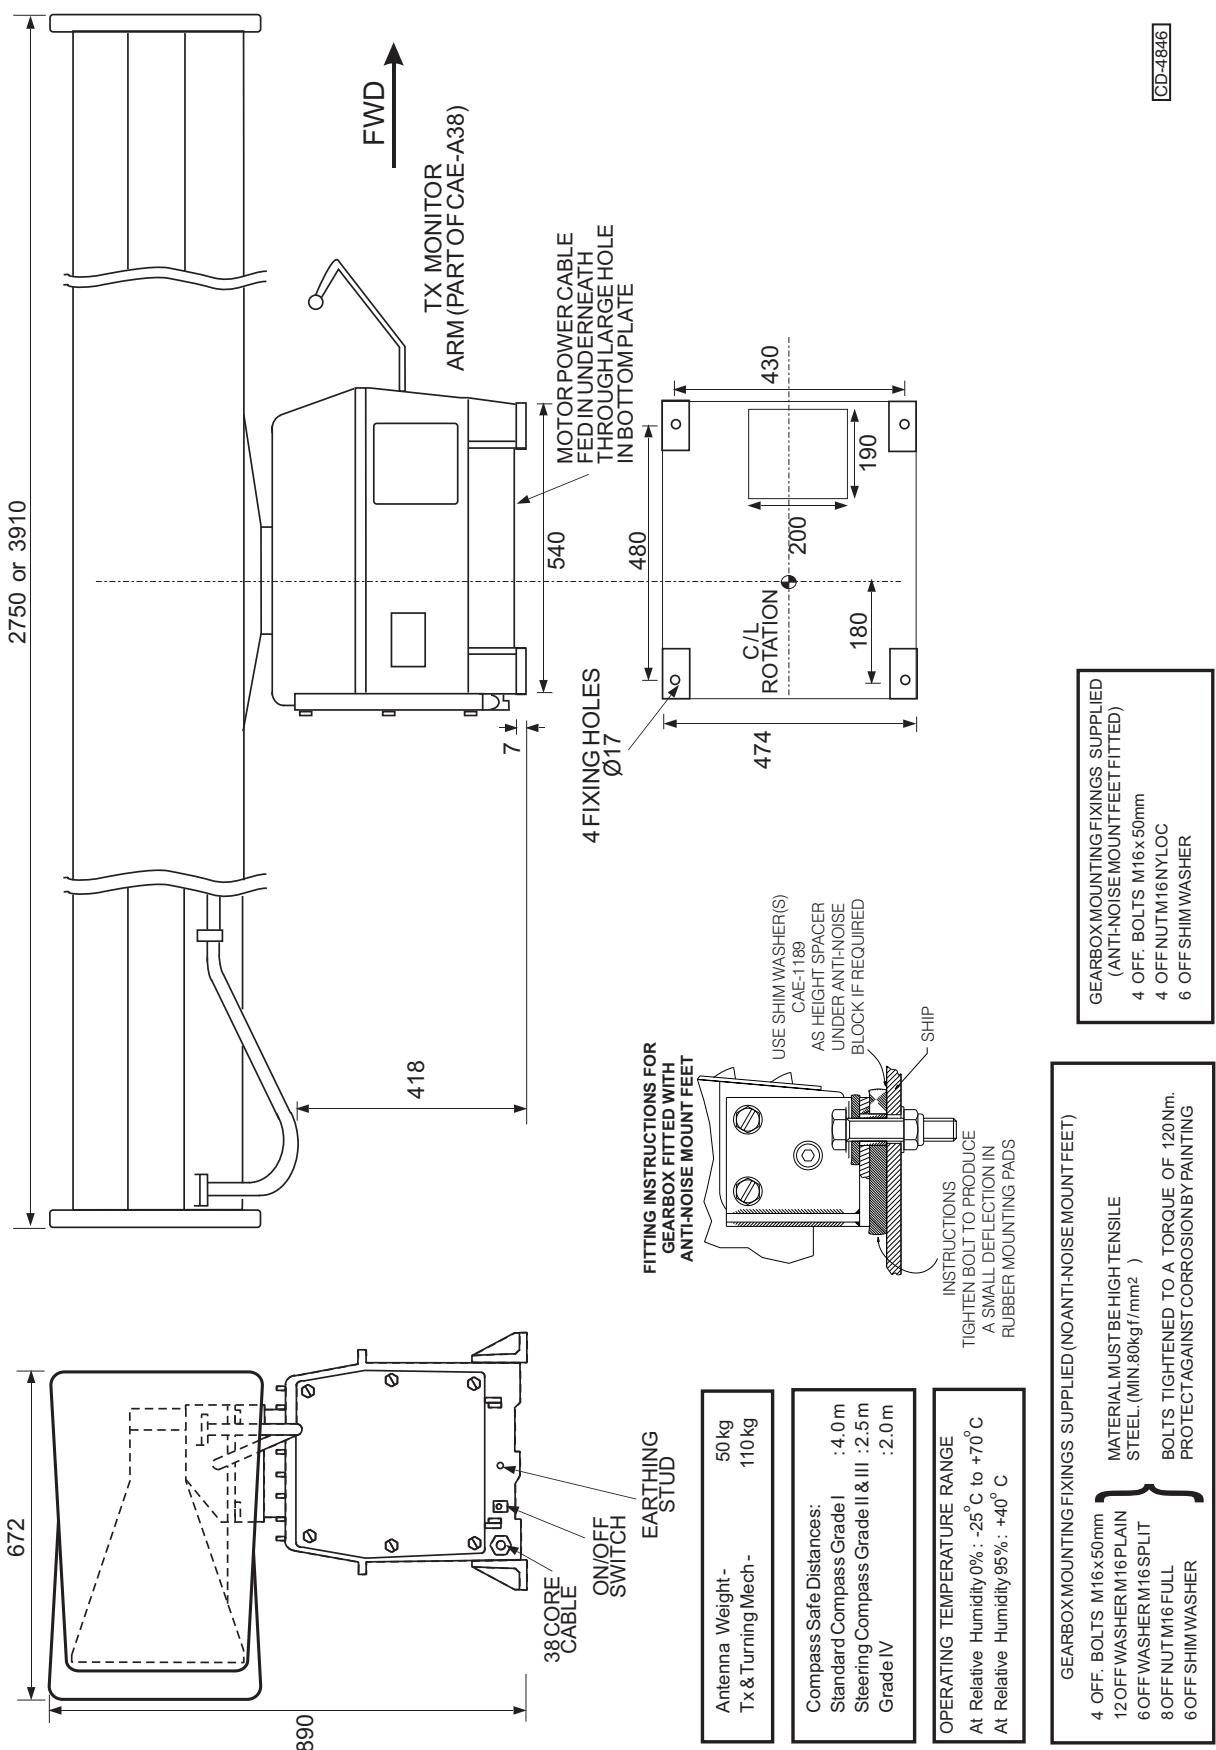

Figure 4d - Transceiver (CAE-A37/A45), Turning Mechanism (CAE-A41, A42) and Antennas: Installation Dimensions
- (1) Use the fitting pack supplied with the equipment (refer to Figure 4d). The fitting pack contains fixings that have been tested to withstand the stresses detailed in paragraph 33.
- (2) Recommended tensile strengths and torque loadings for the fixings are stated on the installation diagram.
- (3) For upmast transceivers/turning mechanisms mounted in excess of 1.8m above the deck, it is recommended that a service platform and guard rail are fitted.
- (4) Use a suitable jointing compound or sealant to prevent corrosion between the platform and upmast transceivers/turning mechanism.
- (5) Any chipped or damaged surfaces must be painted with polyurethane paint.
- 30 With reference to Figures 4d and 5d, install the upmast turning mechanism as follows:
- (1) Fit the coupling element and sealing ring to the antenna connector.
- (2) Fit the antenna to the upmast turning mechanism, ensuring that the connectors are aligned, and loosely secure using the eight M10 retaining bolts, washers and nuts.
- (5) Fit the spoilers to the antenna using the fittings supplied.
- (6) Mark out and drill four 17mm gearbox mounting holes at the mounting position.
- (7) For semi-rigid cable access mark out and drill a 100 mm hole in the mounting platform, as shown on Figure 4d.